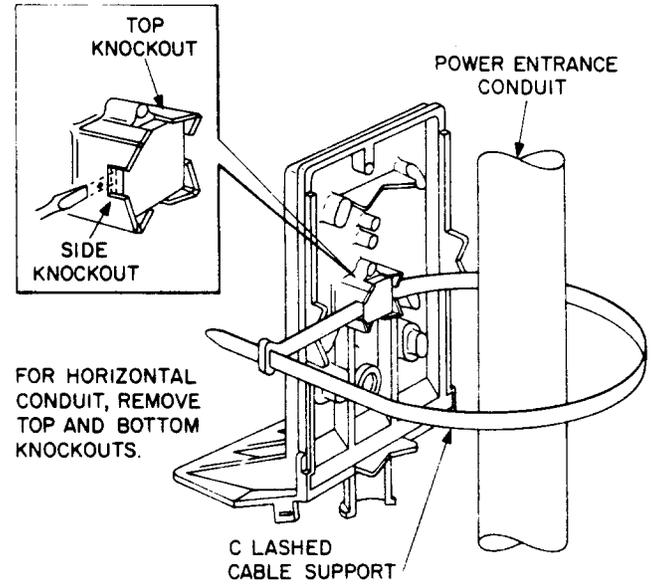

Fig. 7—Mounting on Conduit
3.03 Notched base stanchions have been provided to allow closures to be mounted on a horizontal or vertical conduit, using a C lashed cable support (Fig. 7). Closure may also be mounted on an exterior wall (Fig. 8) or a protector mounting post (PMP) (Fig. 9).